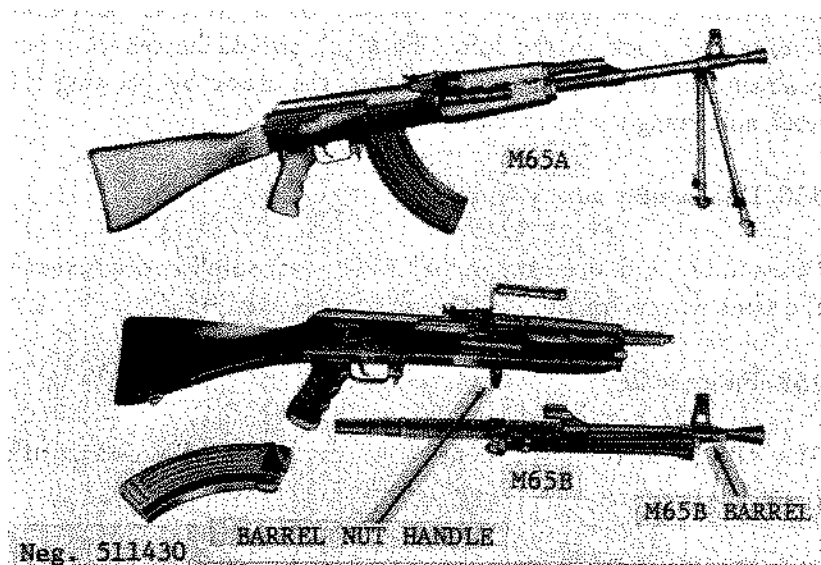

Figure 131. Yugoslav M65A and M65B light machineguns.
The Yugoslav produced 7.62-mm M65A and M65B squad light machineguns (fig 131) are heavy-barrel, bipod equipped versions
(para 92). To change the barrel of the M65B, press the lock on the lower end of the barrel nut handle (fig 131) and rotate the handle upward until it stops. Pull the barrel forward to remove it. Insert the replacement barrel, then turn the barrel nut handle downward; insure that the lock is engaged.
c. Prior to cocking the machinegun, the trigger group can be either forward or rearward, and may be locked in place by the safety (fig 132). Unlock the safety by pressing it down. If the trigger group is in its forward position, draw it rearward (without touching the trigger) until it catches. If it is rearward, depress the conical trigger group latch (fig 131), slide the trigger group forward as far as possible, release the latch, and, without touching the trigger, draw the trigger group to the rear until it latches in place.